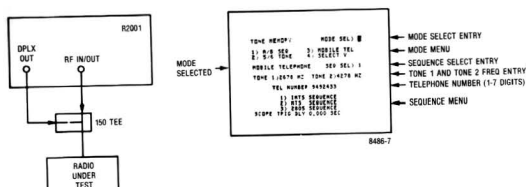

Figure 4-11. Test Setup for Mobile Telephone Test with CRT Display
d. Test Mobile Telephone Receiver and Supervisory Decoder (Figure 4-11).
- Connect the system to be tested as shown in figure 4-11 and set the MODULATION switch as required to test the mobile telephone receiver and supervisory decoder.